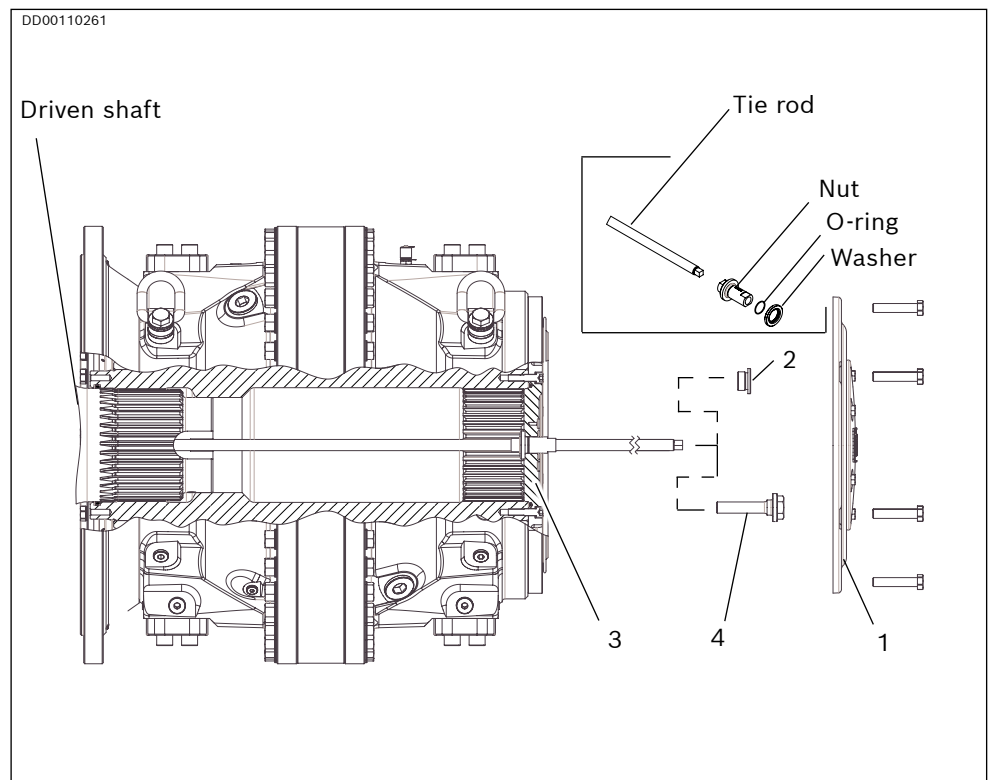

Fig. 50: Removing the CBp motor
3. Remove the end cover (1) together with screws and washers.
4. Dismount the mounting kit (4) or the plug G1" (2).
5. Remove the bearing retainer (3). The oil will drain out.
7. Install the assembly tool with the nut according to Fig. 50. Screw it into the driven shaft by using a wrench at the key grip at the end of the assembly tool.
8. Remount the bearing retainer (3).